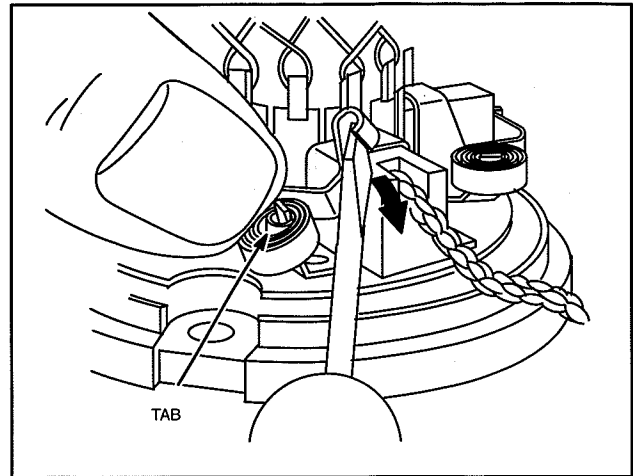

Fig. 25 – Installing Brushes
3. Position coil spring over tab as shown in Fig. 25.